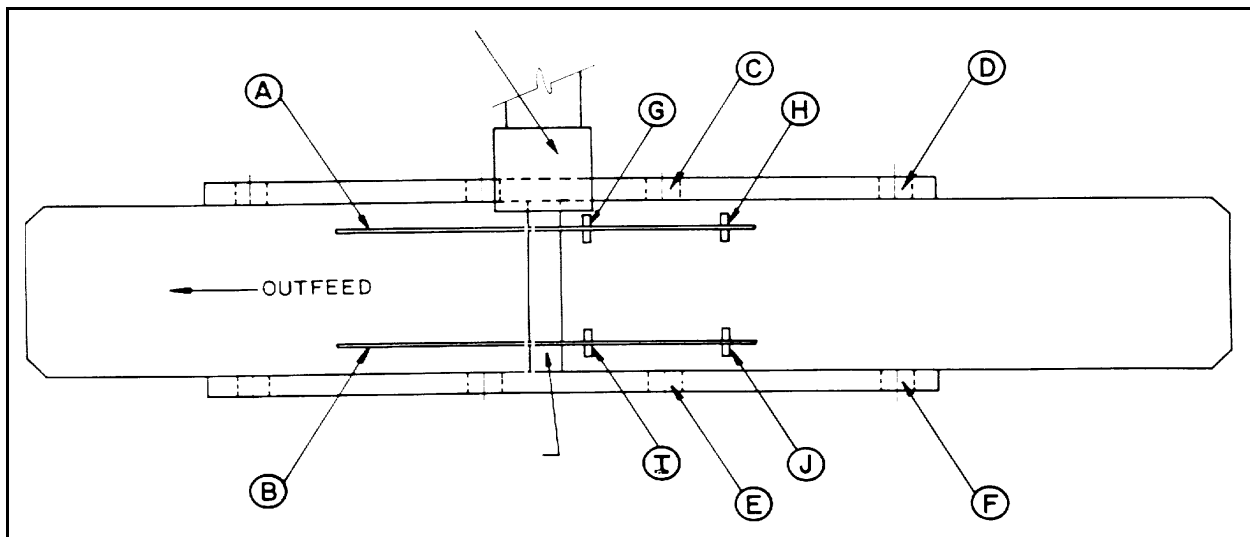

Fig. 6
(Use Figure 6 for the following steps)
8. Place the straight edge across the outfeed table and onto the infeed table as shown in (A, Fig. 6). While holding down firmly on the outfeed end of the straight edge, place a .010" feeler gauge under the straight edge at location (G, Fig. 6). Raise the infeed table up until the .010" feeler gauge just touches the bottom of the straight edge and tighten the infeed table lock knob/lever.
(referencing: Figure 6)
9. While holding down firmly on the outfeed end of the straight edge, insert a .010" feeler gauge at location (H, Fig. 6). This measurement should also be .010". If an adjustment is needed, locate the eccentric bushing (D, Fig. 6) and adjust as in step 5.
10. Place the straight edge across the outfeed table and onto the infeed table as shown in (B, Fig. 6). While holding down firmly on the outfeed end of the straight edge, insert a .010" feeler gauge at location (I, Fig. 6). If an adjustment is needed, locate eccentric bushing (E, Fig. 6) and adjust as in step 5.
11. While holding firmly down on the outfeed end of the straight edge, insert a .010" feeler gauge at location (J, Fig. 6). If an adjustment is needed, locate the eccentric bushing (F, Fig. 6) and adjust as in step 5.